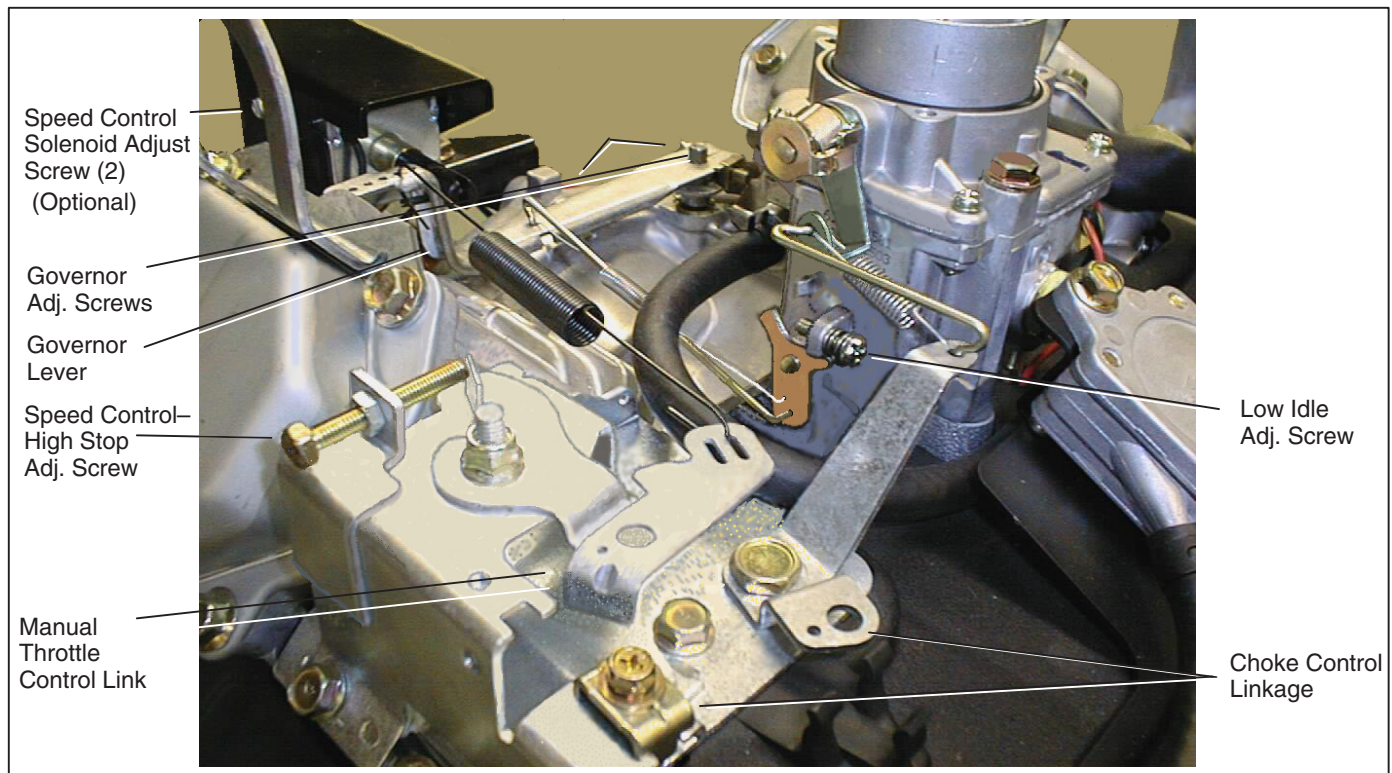

FIGURE 6-1. GOVERNOR AND SPEED CONTROL ASSEMBLY
1. Loosen the hex bolt securing the governor lever to the governor shaft. (Figure 6-1)